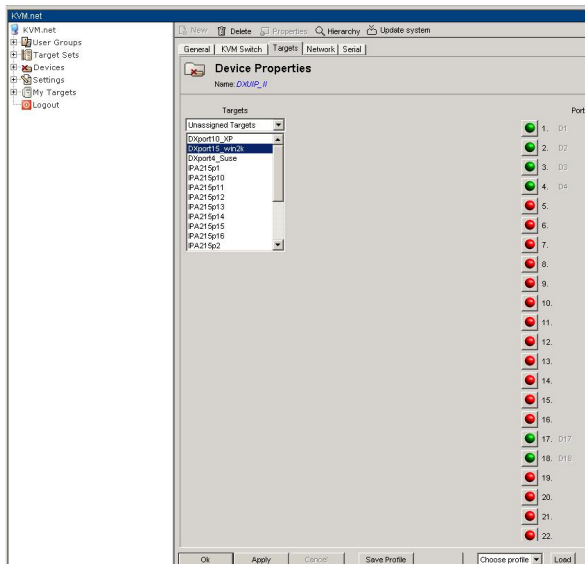

Figure 33 Targets tab
2. In Device Properties click the Targets tab, see Figure 33. Here you assign the Target servers to the specific ports of the DXU IP II unit. You must assign the same Targets to the same ports for each DXU IP II unit.